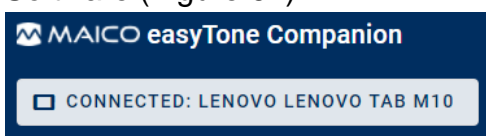

Figure 61
9. Press **Close**. The connected tablet is displayed in the easyTone Companion Software (Figure 61).